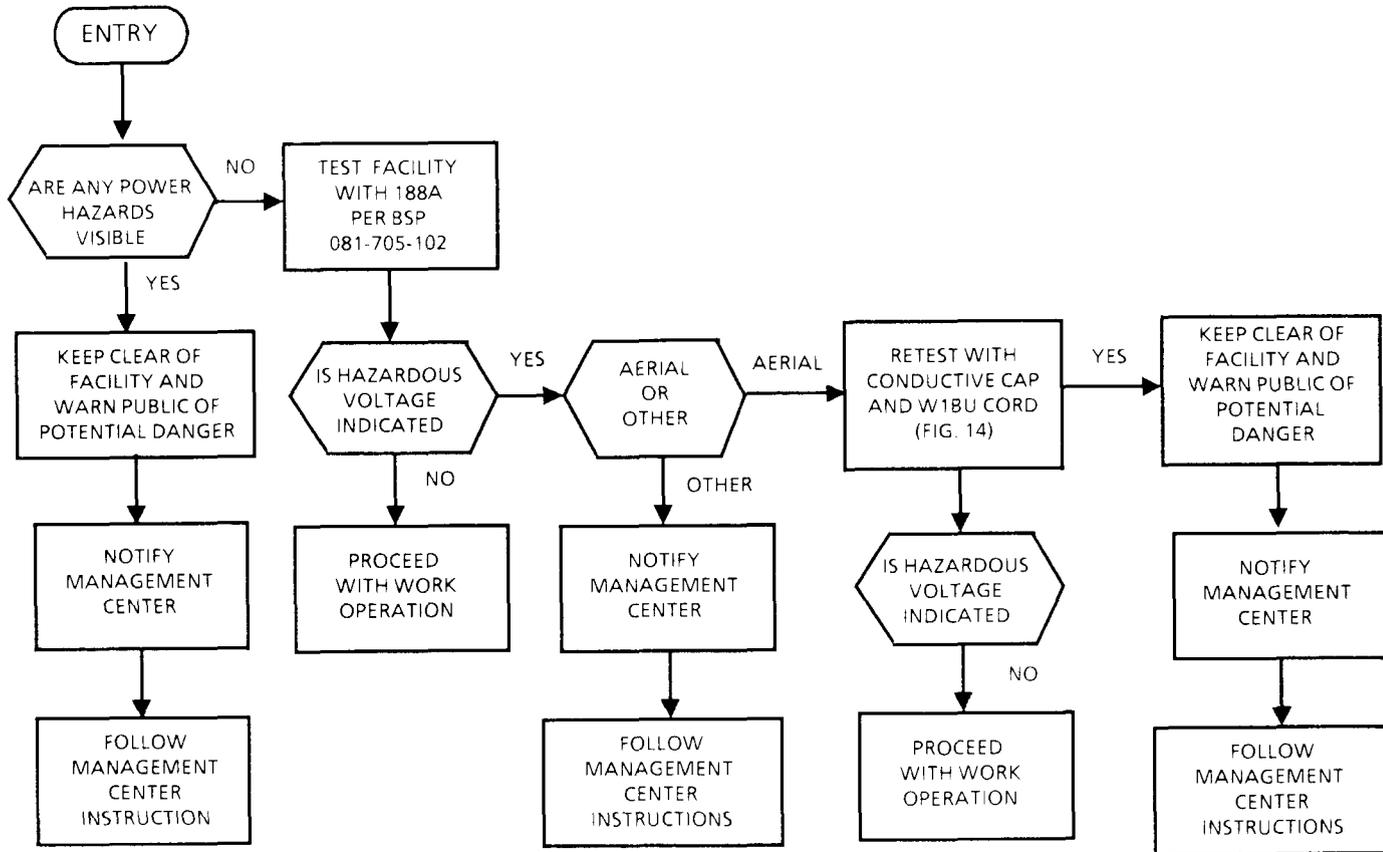

Fig. 12 - TEST PROCEDURES FOR 188A Stoplite
- 6.01 Figure 12 provides test procedures for the 188A 'Stoplite' test set. Paragraphs 6.02 through 6.14 provide procedures for testing specific facilities.